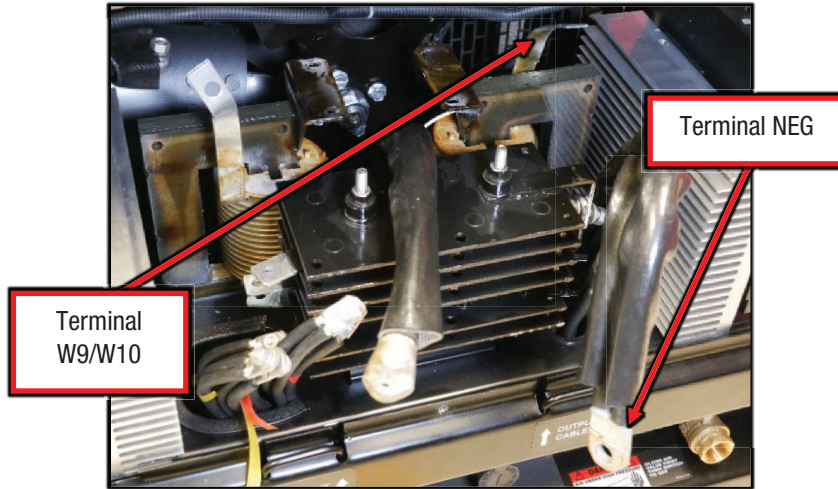

Figure F.2
- A.2. Label and disconnect the leads from the following terminals on Choke B, refer to Figure F.2.
- A.3. Perform the static measurements in Test Table 1, refer to Figure F.2 for test point locations. NOTE: MEASUREMENTS ARE MADE ON CHOKE B WITH THE LEADS REMOVED.